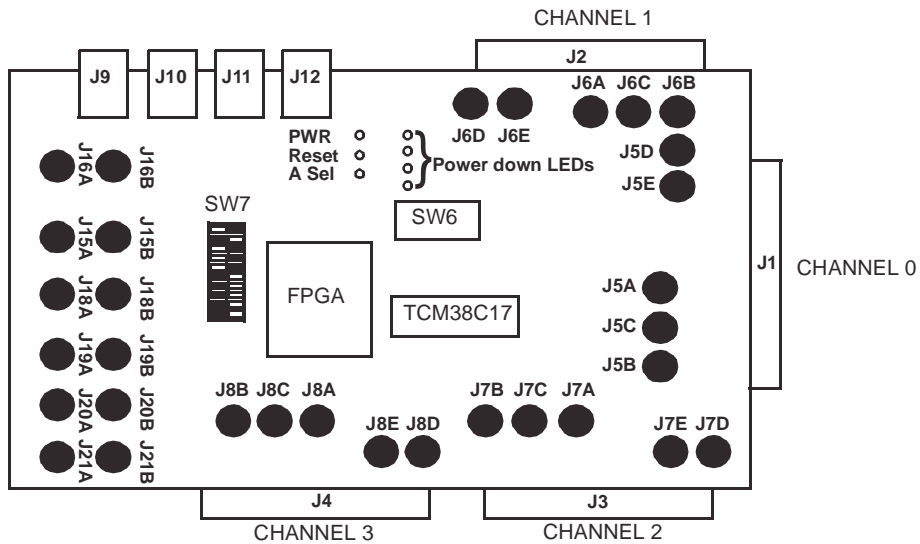

FIGURE 3. MOTHER BOARD LAYOUT
2. Connect daughter board to port J1 (Channel 0) of mother board Reference Figure 3.
6. All of the channel power-down LED's will be illuminated along with the PWR LED and the A SEL LED (Figure 3). **This test will be preformed with all channel from the mother board in the power down condition (all LED's illuminated).**
6. All of the channel power-down LED's will be illuminated along with the PWR LED and the A SEL LED (Figure 3).